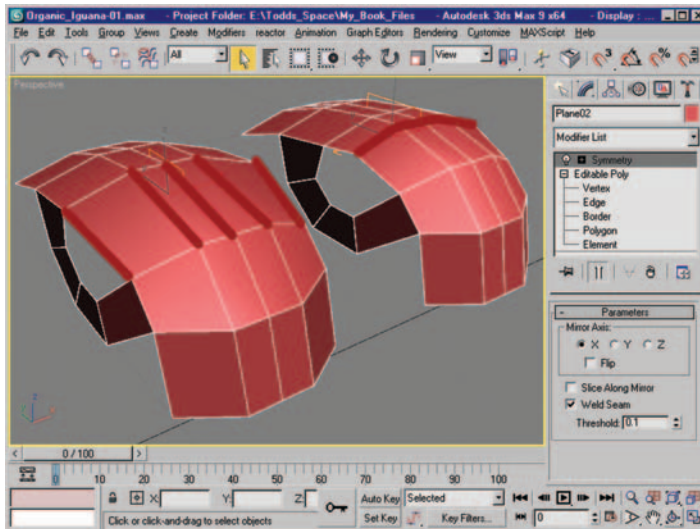

Figure 9.8 Edge selection and resulting new edges after using Connect.
8. Select the edges shown in Figure 9.8 (left) and use Connect to create a new row of edges (Figure 9.8, right).